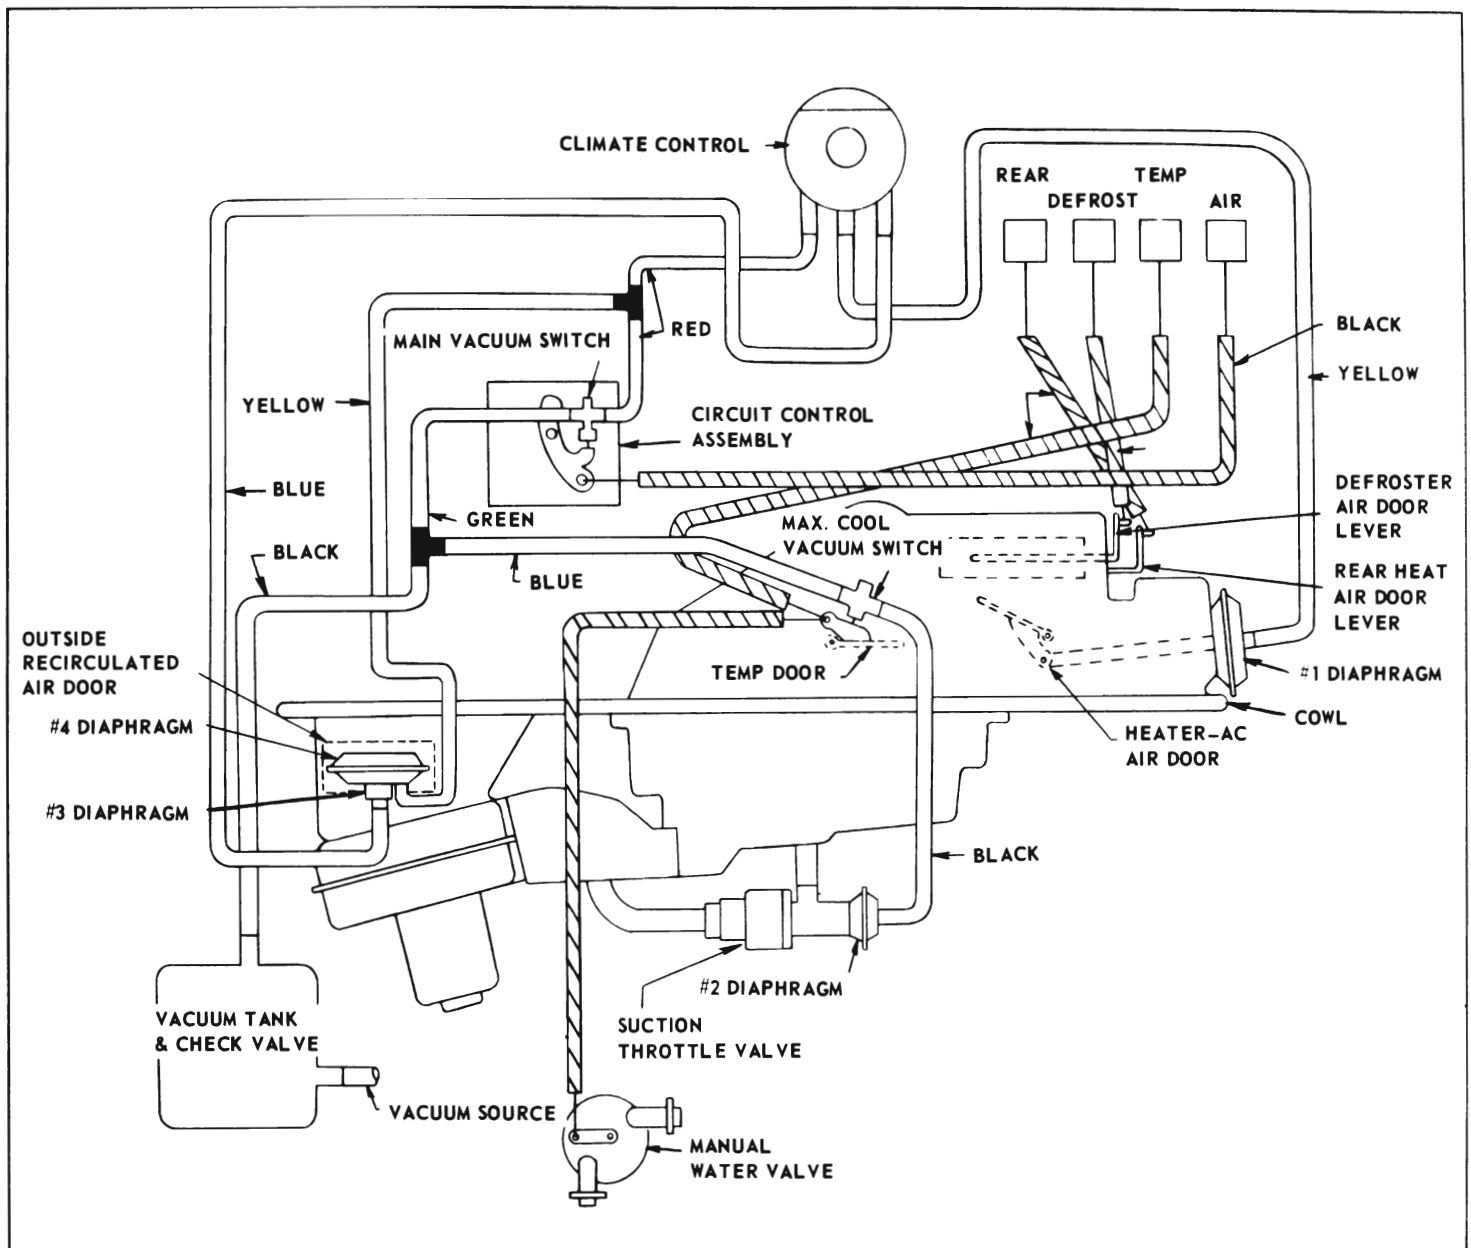

Figure 11-73—Vacuum Circuit and Control Wire Layout - 4400, 4600 and 4800 Series
The AIR lever control wire is attached to a circuit control assembly located on the heater case. See Figures 11-73 and 11-79. Included in the circuit control assembly is an electrical circuit control switch, blower
the temperature door. See Figure 11-73. Located at the temperature door is the max. cooling vacuum switch which controls the vacuum to the suction throttle valve vacuum diaphragm. Also, a second wire connects from the temperature door to the manual water valve. First movement of the TEMP lever from off, opens the water valve to allow water flow through the heater core. It also positions the temperature door to allow some air to pass through heater core, and closes the vacuum switch to set the suction throttle valve at its maximum cooling position. Further movement of the lever only positions the temperature door to allow more air to pass through the heater core.
1. An outside recirculated air door is located on blower and air inlet assembly. See Figure 11-73 and 11-74. This air door is operated by a dual stage (#3 and #4) vacuum diaphragm.
Two vacuum switches are used. See Figure 11-73. The main vacuum switch, which is operated by the Air lever and located on the circuit control assembly, is open (allows vacuum to pass through) when its plunger is fully released. The max. cooling vacuum switch, which is operated by the TEMP lever wire, is open when its plunger is fully depressed. The two vacuum switches must not
<p>NOTE: If the vacuum hoses are properly attached (Figure 11-73 and 11-78) and lever control wires properly adjusted (par. 11-17, subpar. "d"), complaint may be caused by the items listed on this chart.</p>